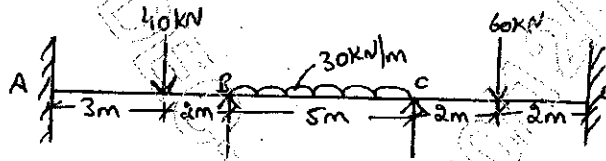

Fig.Q1
- 1 Analyze the continuous beam shown in Fig.Q1 by slope deflection method. Draw BMD and EC.